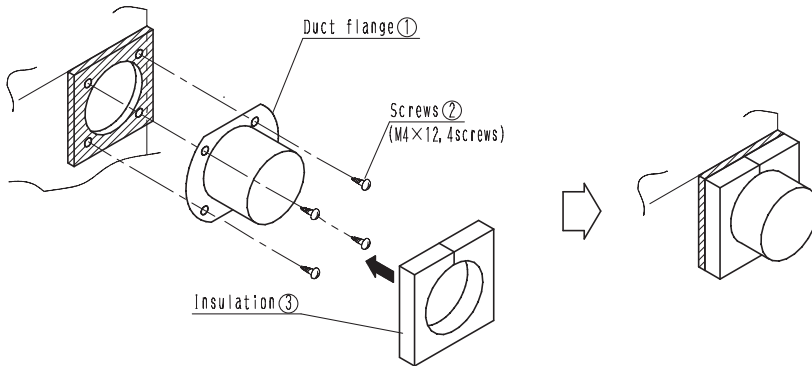

Fig. 3
- Install the duct flange ① with screws ② (M4×12, 4 screws) to the opening and adhere the insulation ③ (Fig.3)